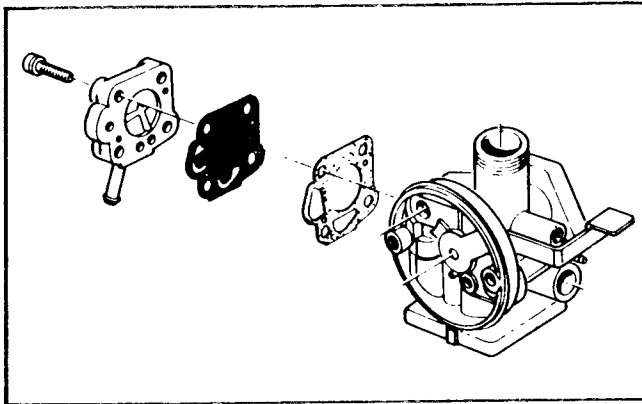

Figure 30
10. Replace the fuel diaphragm pump parts by installing the pump cover gasket against the carburetor, the pump diaphragm against the pump cover gasket, the pump cover against the pump diaphragm and securing these pieces with four screws with lock washers. See Figure 30.